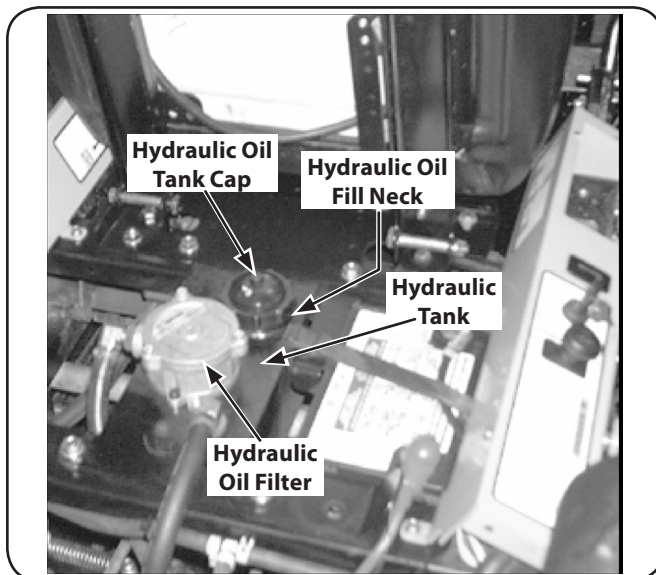

Figure 6-3
- Clean the area around the hydraulic oil fill neck. See Fig. 6-3.
- Remove the hydraulic fill cap and check the level. See Fig. 6-3. The correct level is up to the lowest hole of the oil tank fill neck.